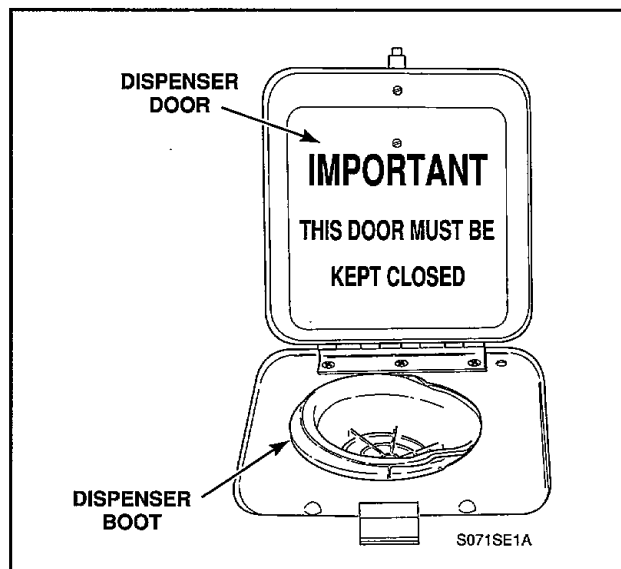

Figure 12
- e. Open dispenser door, compress dispenser boot and push boot down through cabinet top, *Figure 12*.
- Open dispenser door, compress dispenser boot and push boot down through cabinet top, *Figure 12*.
- g. Open dispenser door, compress dispenser boot and push boot down through cabinet top, *Figure 12*.